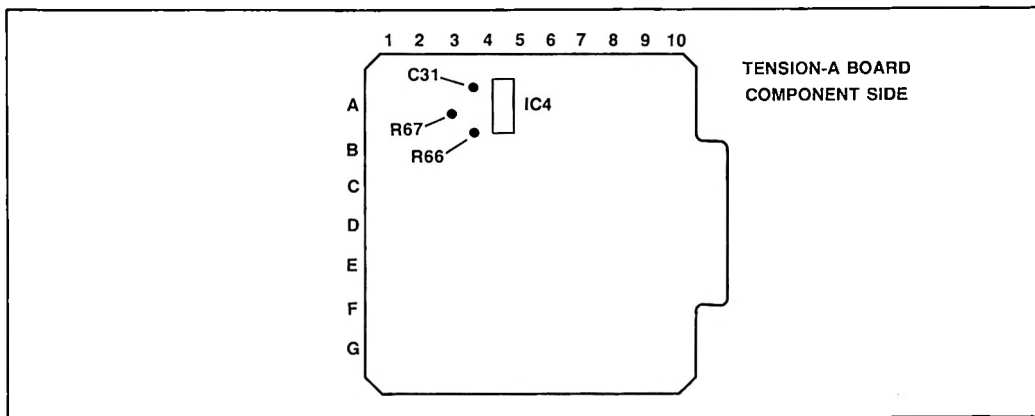

Figure 1
1. Delete the following components (See Figures 1 and 2.)